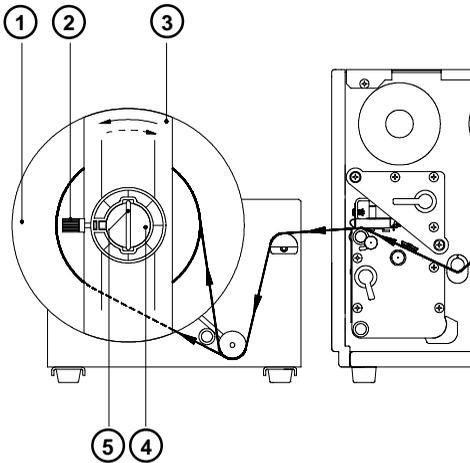

Figure 8d Rewinding directly onto the rewind axle
2. Feed the label strip over the guide bar and under the roller onto the rewriter axle as shown in Figure 8d. Ensure that the label strip is flush to the disc (1).
3. Considering the required method of rewinding, secure the label strip to the rewriter axle (4) by sliding the clamp (5) over the label strip with the clamp set in the groove (the broken line shows inside rolled labels).
4. Slide the clamp (5) towards the disc (1) as far as possible.
5. Slide the flange (3) onto the rewind axle (4) so that it slightly touches the label strip. It must be possible for the label strip to move slightly between the disc (1) and flange (3).
6. Tighten knurled screw (2) in the flange (3).